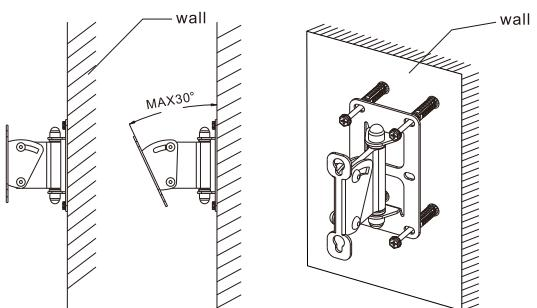

Figure 2
- 3.Install the mounting bracket to the mounting holes using the M5*45 screws, as shown in Figure 2.